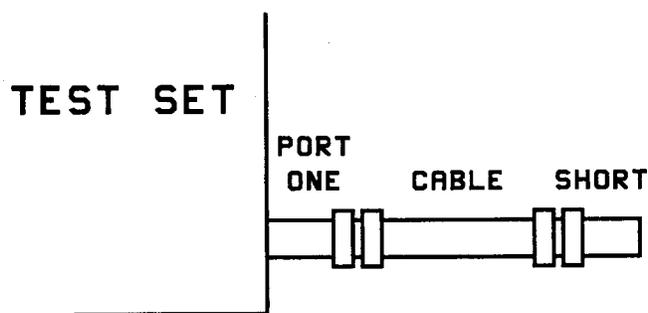

Figure 3. Insertion Loss set-up
**Insertion loss** is measured by terminating the cable with a short and then measuring return loss. Measure with the one port calibration, made in step 4 of the above procedure, turned on. The values shown on the CRT represent an out-and-back path for the signal, which is twice the insertion loss for the cable. Therefore, it is necessary to divide your worst case insertion loss by 2 before comparing it to the specifications in the beginning of this manual (see Figure 3).